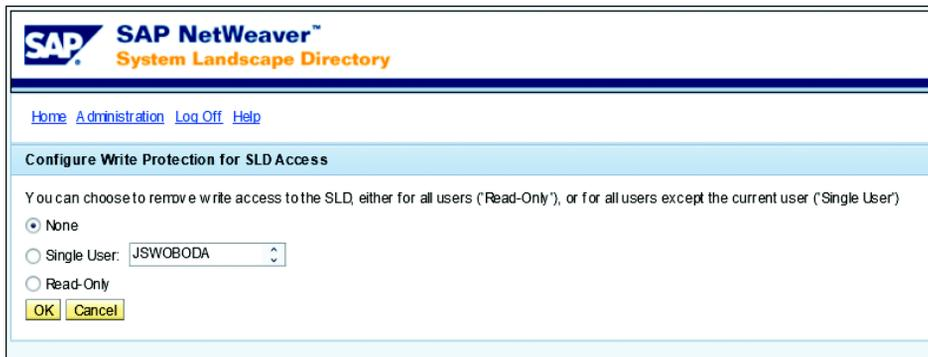

Figure 92 Turn Off Write Protection On the SLD
- » Change the profile in the SLD to make the SLD writable again using the server configuration option within the administration area of the SLD. Select **SETTINGS • SERVER CONFIGURATION** and then under **WRITE PROTECTION** select **CONFIGURE**. You will then have the option to set the system to **READ-ONLY**, **NO WRITE PROTECTION**, or **WRITE PROTECTION** for all users except one. Select **NONE** and **SAVE**. Figure 92 is an example of the final screen.